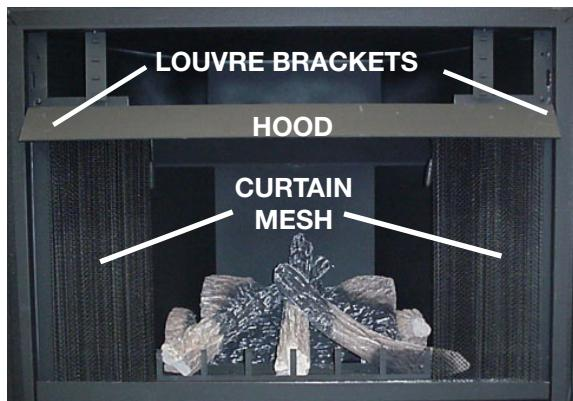

Fig. 3
C. Secure the hood using the screws removed in step 1. Ensure that the louvre brackets are positioned in front of the hood (**Fig. 3**).